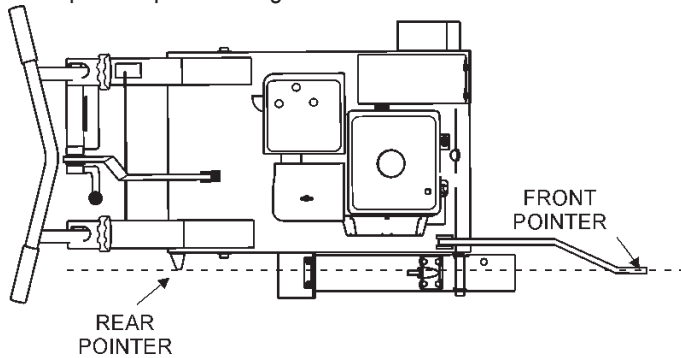

Figure 22. Pointer View (Front/Rear)
1. The FS 1 employs a front and rear pointer (Figure 22) that has been precisely aligned with the diamond blade at the factory. Referencing the figure below, accurate tracking is accomplished by referencing the front and rear pointer tips over the cut line. Precise saw direction is accomplished by slight operator pressure against the handle bars.